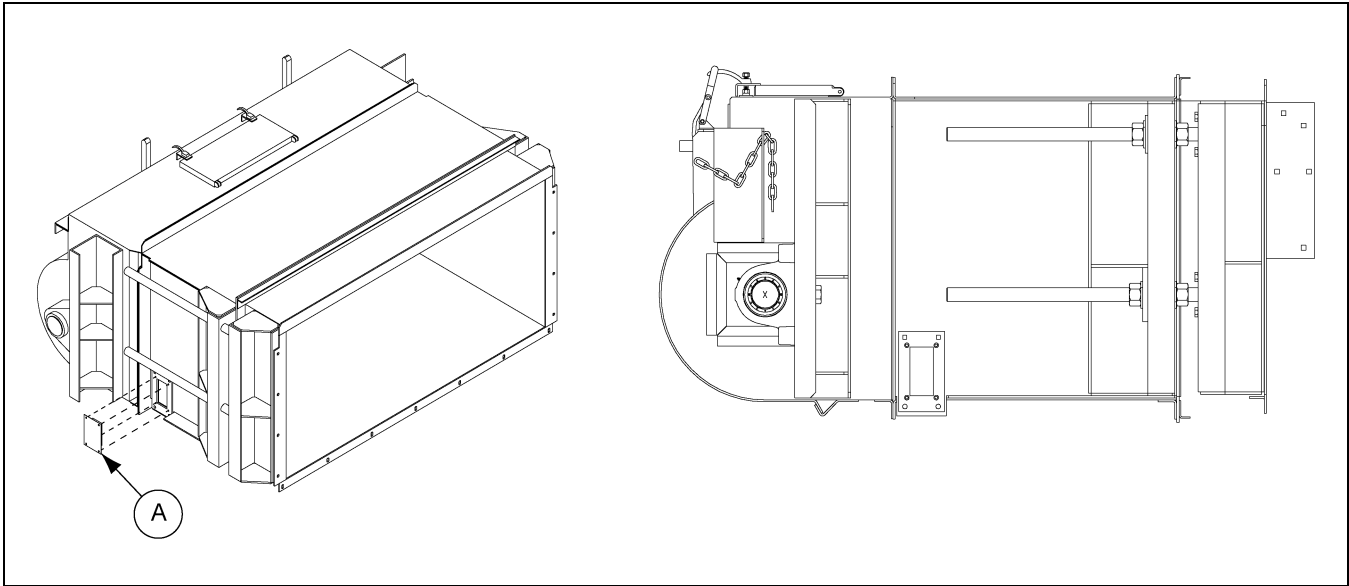
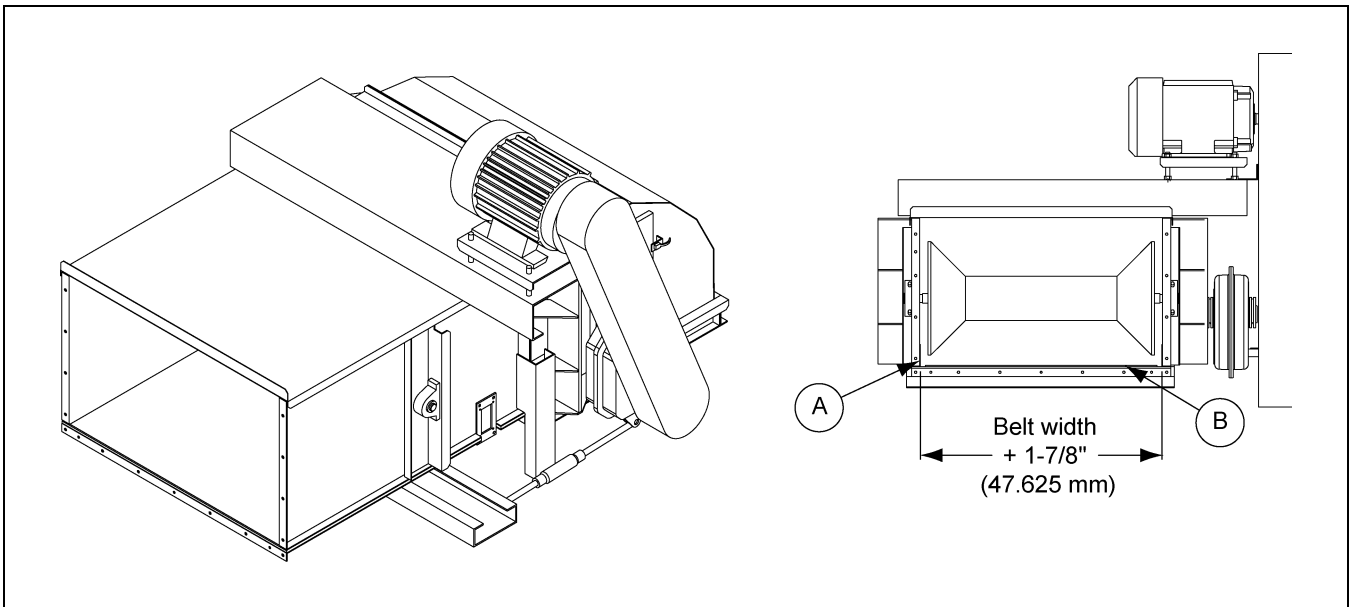

Figure 5D Rub-Block in Tail/Take-Up Section
Figure 5E Rub-Block in Short Section
- 1. Sensors shall detect any abnormal tracking of the conveyor belt, and bring the conveyor to a safe stop before a hazardous situation can occur. 'Rub-blocks' are located at the tail/take-up section (See Figure 5D), and in the short section immediately following the head/drive section. (See Figure 5E.)